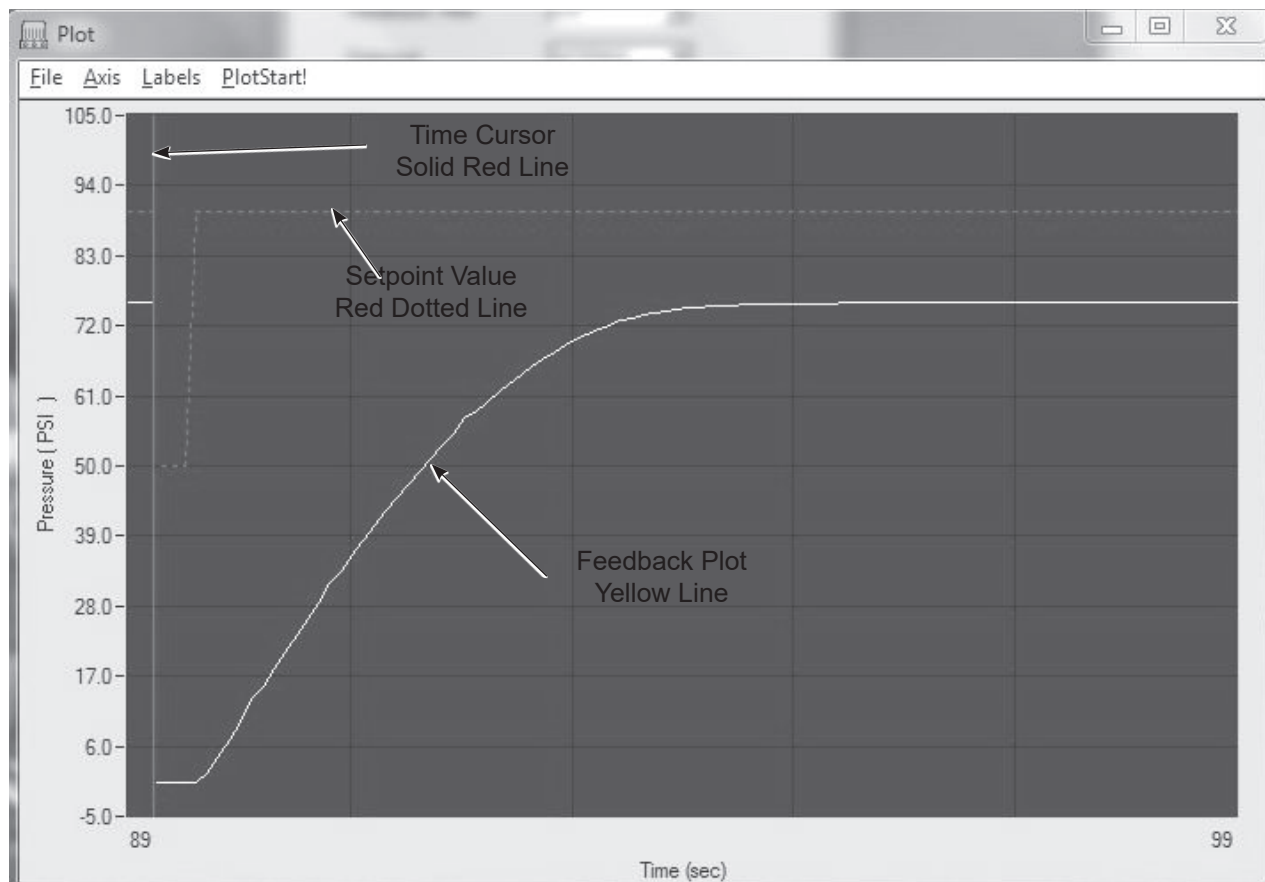

Figure 11 Plot Window Bypass Operation of the ePRR
NOTE: See Figure 11. The dotted red line in the graph is the setpoint value, and the yellow line is the actual feedback value. A solid red vertical line sweeps across the *Plot* window, acting as a time cursor.
2. Click on the *Setpoint 2* button. Then, in the *Plot* window (see Figure 11), observe the feedback plot, represented by the yellow line, for 25 seconds, and verify that it remains at 0.